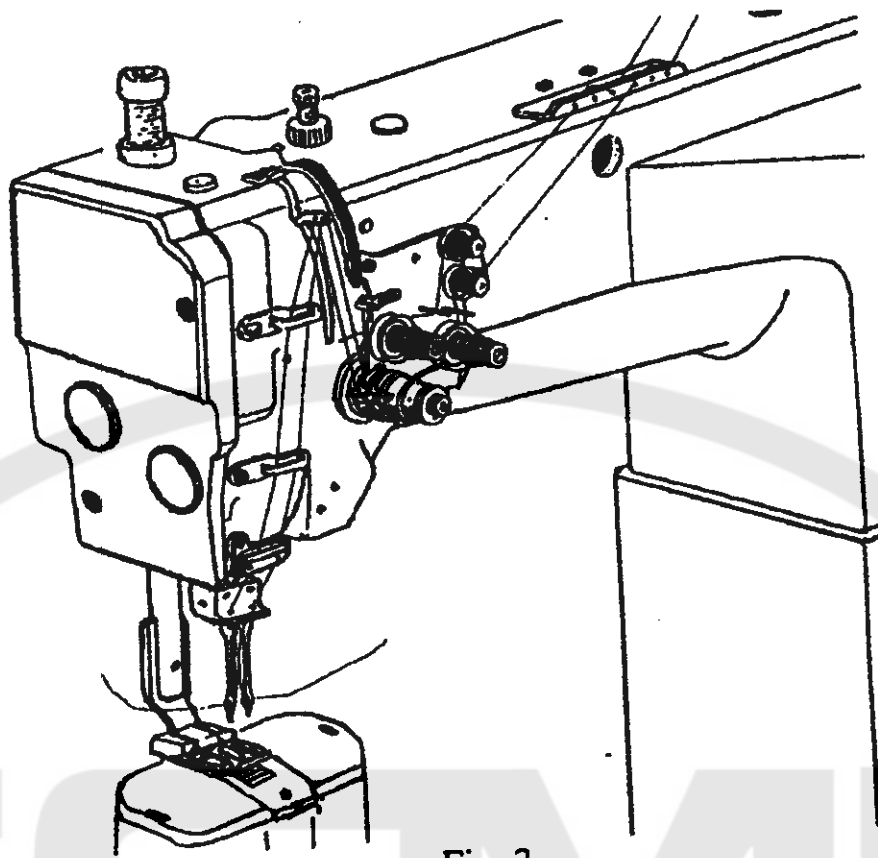

Fig. 3
7、 Lead the Upper Thread (Fig.3):
Raise the thread take-up lever to its highest position and lead the upper thread as shown in fig.3.